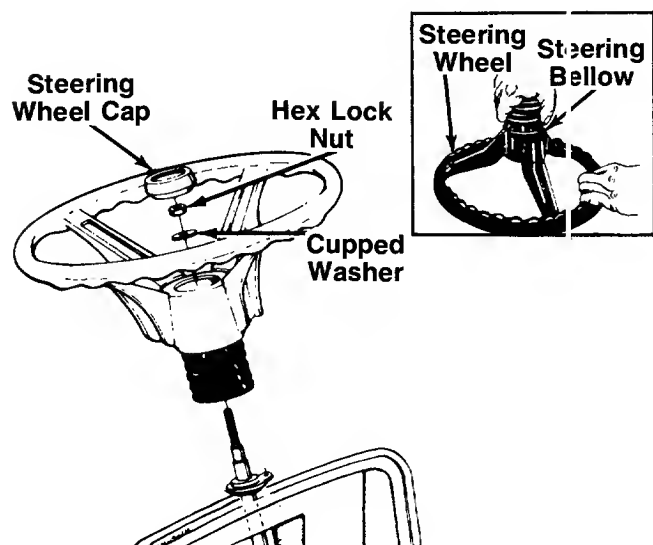

FIGURE 9.
- Attach one end of steering bellow to the steering wheel as shown in figure 9, inset.
- Place the washer with the cupped side down over the steering shaft. Secure with 5/16" hex lock nut. See figure 9.